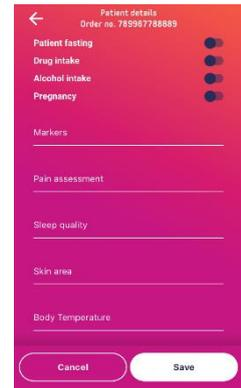

Figure 10 Add patient details
- b. To request order information (see Figure 10), place one of the following objects in front of the smartphone/tablet such that the camera faces the barcode attached to the object and hold it for 1-2 seconds.